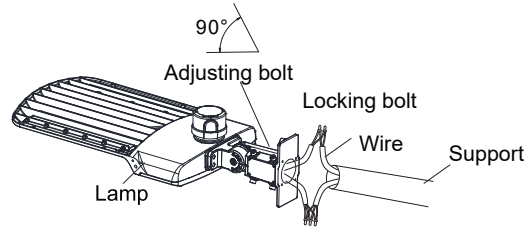

Figure 14
Step 2: Loosen the four bolts on ADM bracket, connect the wires correctly and pull the wires into the poles. (Figure 14)
Step 3: Place the bracket into the pole and lock the four bolts. (Figure 14)
Notice: Adjustable angle is 0-90°(Figure 14)